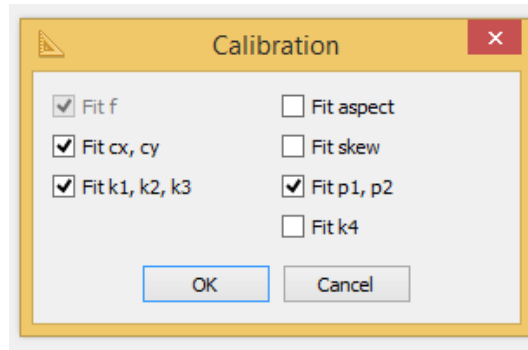

Figure 3: Calibration parameters to estimate in Agisoft Lens.
4. a window such as the figure 3 will appear: select the same calibration parameters